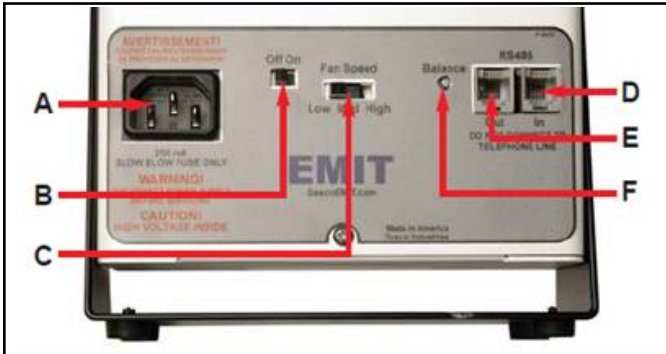

Figure 3. Bench Top Zero Volt Ionizers features and components
1. Set the fan speed switch on the rear of the unit to the LOW, MED, or HI position (see Figure 3). Higher airflow will result in faster neutralization rates.
The Benchtop Zero Volt Ionizer is an auto-balancing unit. However, tuning or manual adjustment can be accomplished by inserting a small screwdriver or trimmer adjustment tool into the balance adjustment hole located at the rear of the unit (see Figure 3). To increase the output in a positive direction, turn the potentiometer clockwise. To increase the output in a negative direction, turn the potentiometer counter-clockwise.